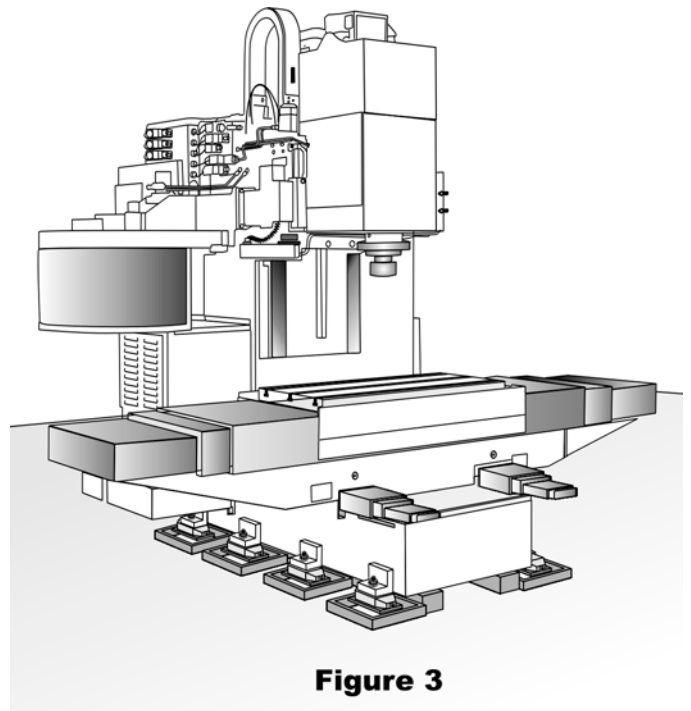

Figure 3
6. Check that the DK Mounts and anchors are still aligned with the grout cavities and then lower the machine to the desired elevation, while still supporting the machine with steel blocks and/or timbers. See Figure 3.